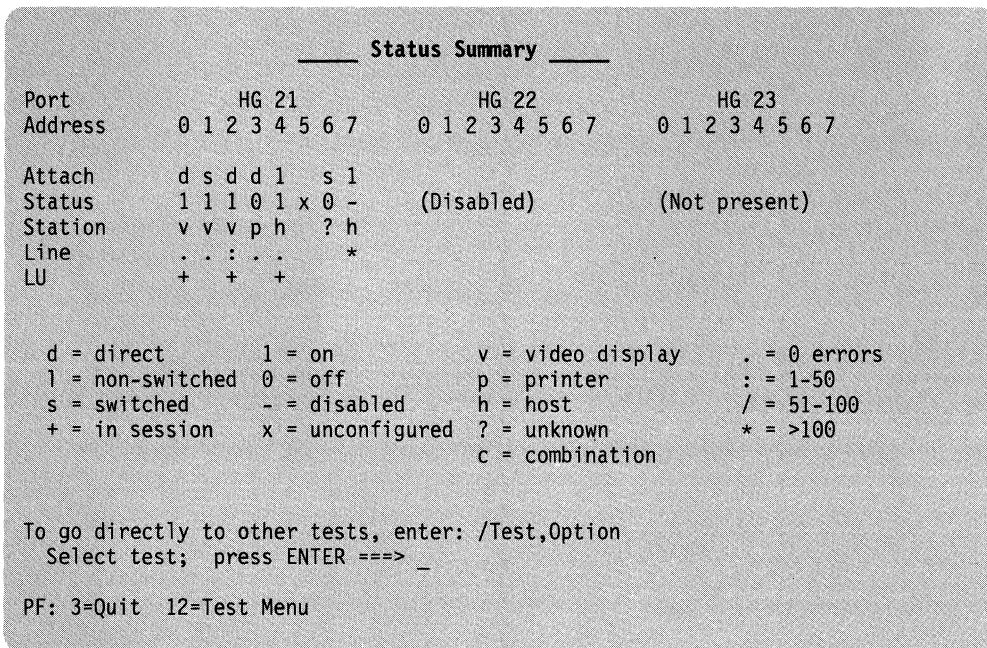

Figure 4-57. Example of an Asynchronous Emulation Adapter Status Summary Panel
**Test 12, Option 2:** Figure 4-57 an example of a Test 12 Status Summary panel.